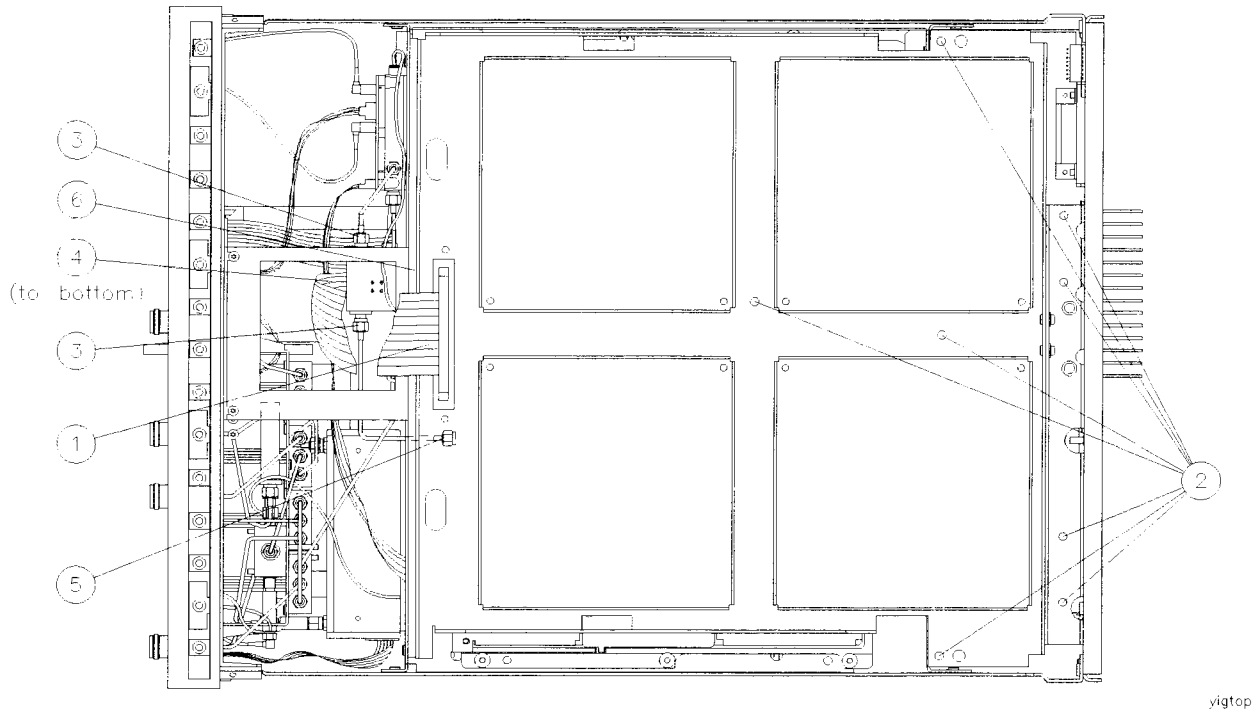

Figure 4-19 A15 YIG Replacement, Top View
3. Disconnect the ribbon cable from the J5 connector on the front strut (1). Refer to Figure 4-19 on page 4-39.
4. Remove eight screws on the front to access the components beneath the top lid (2).
5. Disconnect the two semi-rigid cables from both sides of the A15 YIG (3).
7. Disconnect the cable that goes to J5 on the A11 processor board (4).
8. Disconnect the YIG cable assembly from J9 on the top deck motherboard (5).
11. Remove the screw that secures the YIG to the chassis (6).
3. Replace the screw that secures the YIG to the chassis (6). Refer to Figure 4-19.
6. Connect the YIG cable assembly from J9 on the top deck motherboard (5).
8. Connect the cable that goes to J5 on the A11 processor board (4).
9. Connect the two semi-rigid cables on either side of the YIG (3).
10. Replace the eight screws on the front (2).
11. Connect the ribbon cable to the J5 connector on the front strut (1).